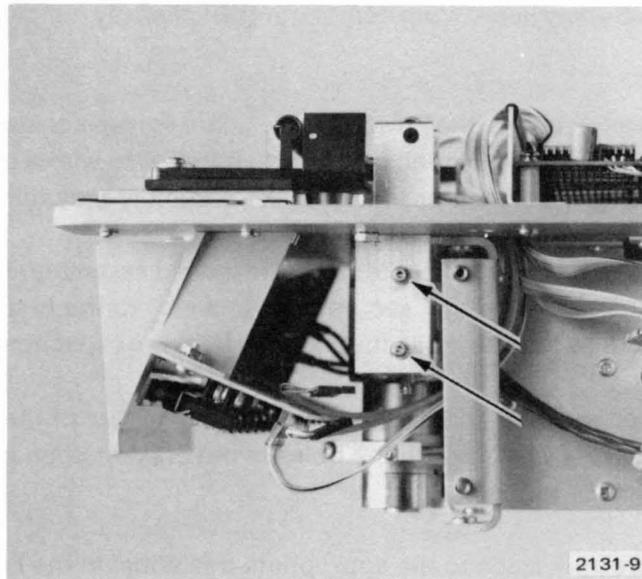

Fig. 3-12. Head Bracket Mounting Screws.
3. Remove the two screws that attach the Head Mounting Bracket to the mounting block (Fig. 3-12) and lift the bracket out from the top.